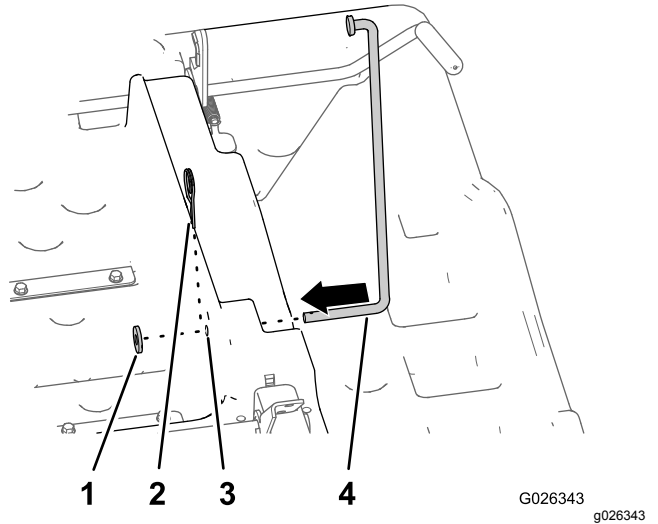

Figure 11
2. Align a washer (1/2 inch) over the long leg of the prop rod and secure the rod to the cargo bed with a hair pin (Figure 11).